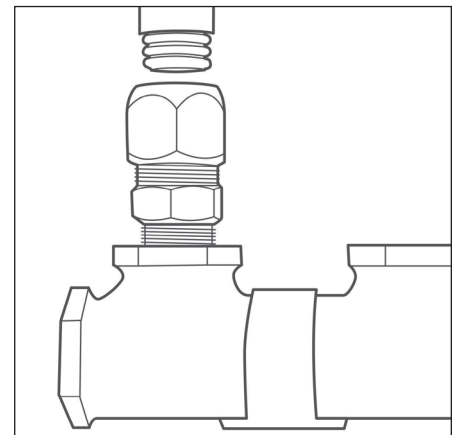

Figure: 4-8
- 3. NPT CONNECTION:** For couplings, skip this step. For straight fittings, connect NPT threaded end to termination point, i.e. manifold or appliance, using thread sealant. Tighten fitting to termination point using an adjustable wrench on the body hex only. Figure: 4-8 **Do not make this connection by tightening the nut, or the assembly of the fitting to the pipe will not be possible without disassembly and reassembly of the fitting components.**